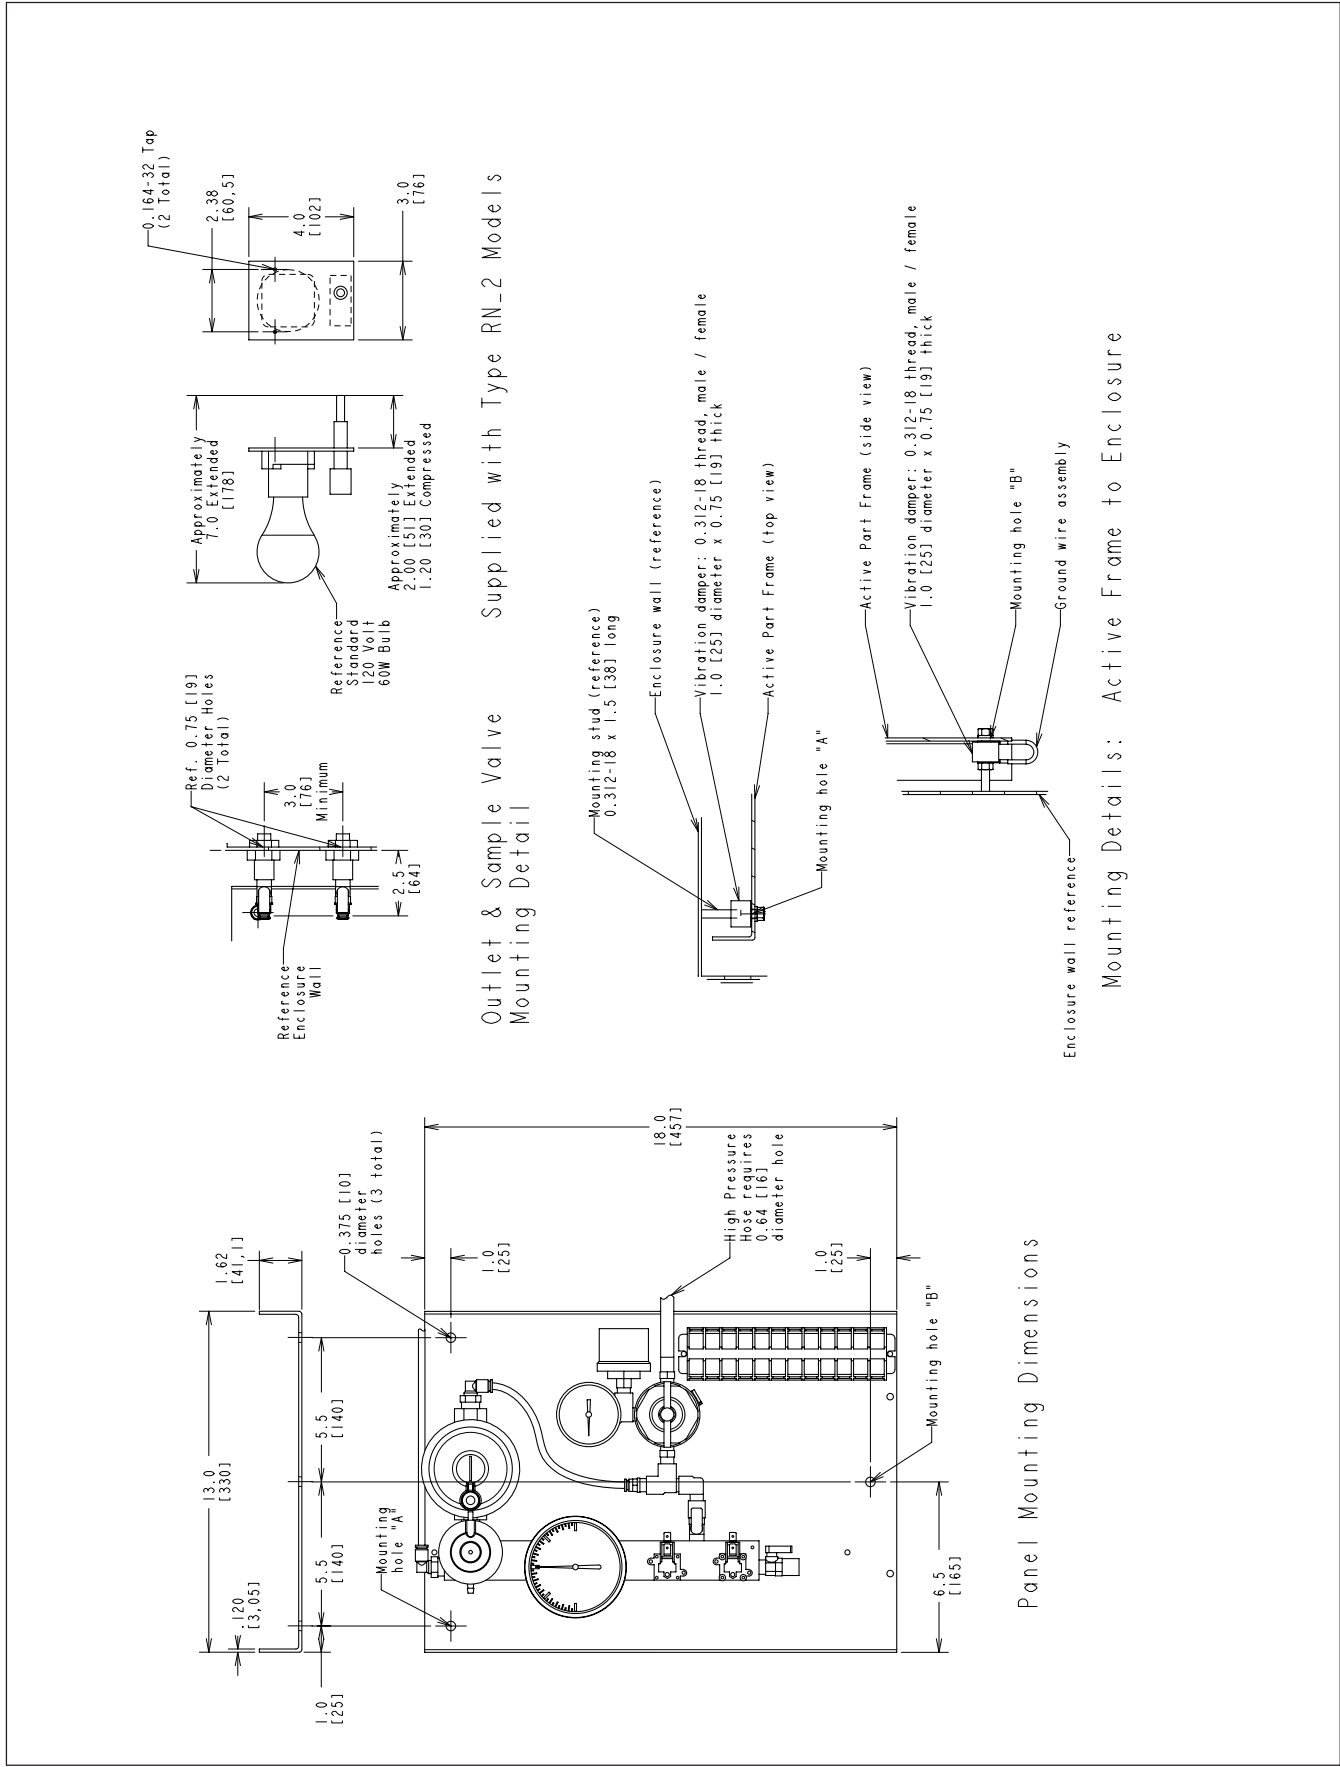

Figure 5: Key dimensions for mounting RNA\_ unit within an enclosure.
- a. Cut openings in the enclosure for bulkhead adapters, cable entrance, and hose passage as needed (for typical dimensions see Figure 5).
- b. Install the three shock mounts onto 1.5 inch (38 mm) long, 0.313-18 studs within enclosure. Secure "Active Part" panel onto the mounts with hardware as shown in Figure 5. Note the grounding scheme on lower mounting stud.
- d. Secure the bulkhead connectors for the outlet valve and sampling valve through the right wall of the enclosure so valve knobs face forward (see Figure 5).